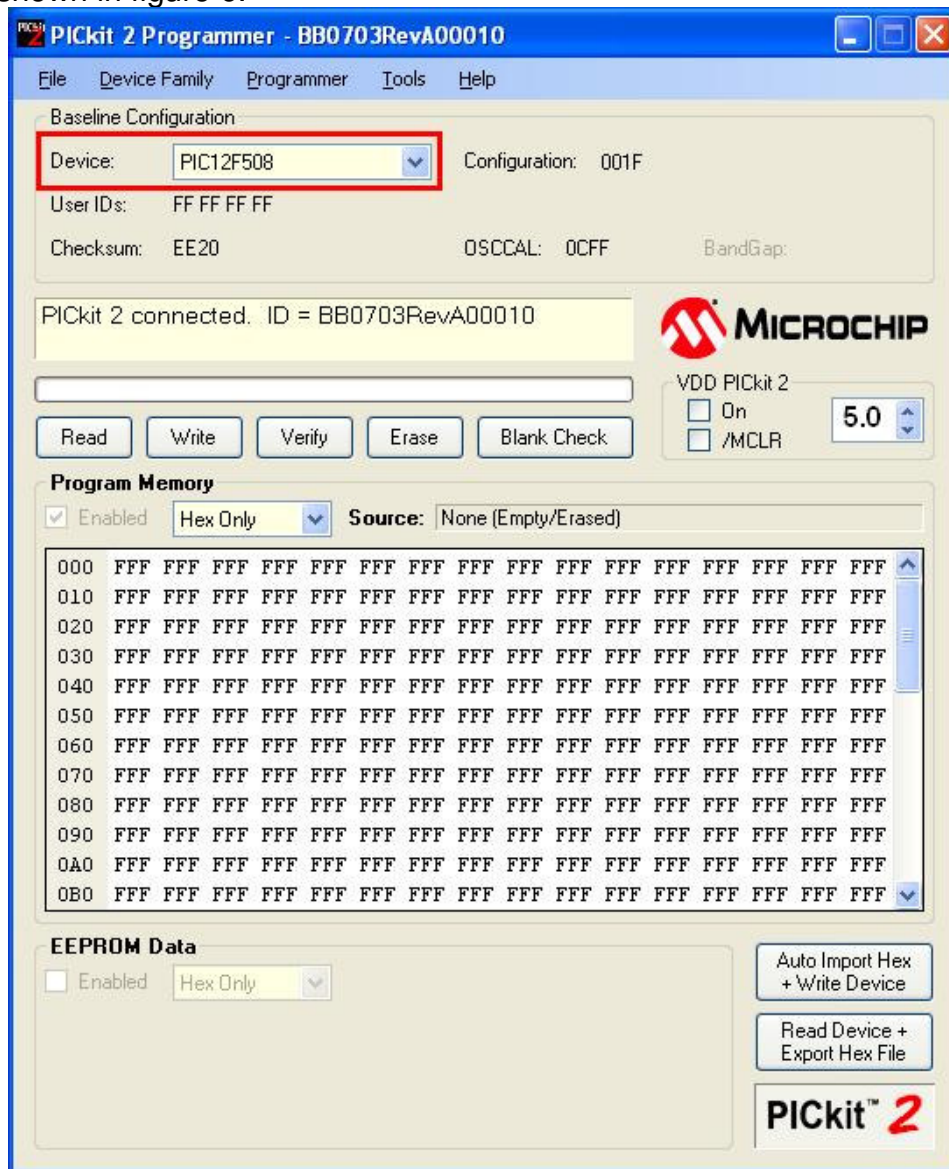

Figure 6 PICkit 2 Programmer window
2. "PICkit 2 Programmer" window shows up, select PIC12F508 from the device drop down list, as shown in figure 6.